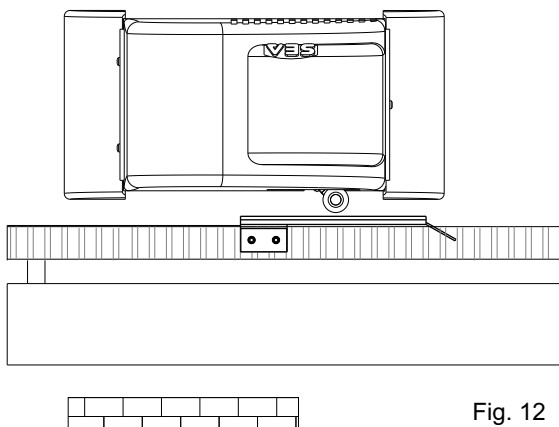
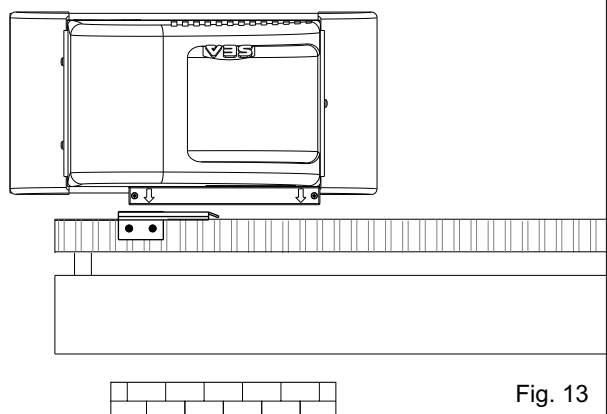

Fig. 12
Fig. 13
- Place the limit switch plate on the gear rack to have the limit switch (lever in case of mechanical limit switch (Fig. 12); pointers placed in the higher part in case of inductive limit switch (Fig. 13)) in correspondence with the X point which is 50 mm from the folded side of the plate (Fig. 14) and fix it with the supplied screws (Fig. 15).